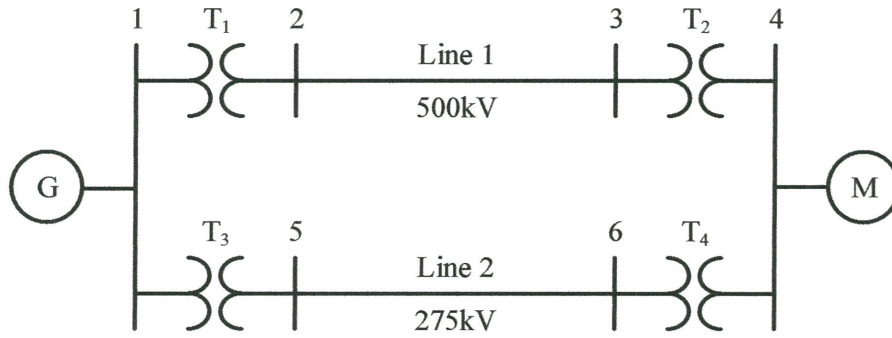

FIGURE Q1(b)
- Q1** (a) List **five (5)** advantages of using per unit system in power system analysis. (5 marks)
- (b) An one-line diagram of a three-phase power system is shown in **Figure Q1(b)**. Line 1 and 2 have reactances of 53.61Ω and 44.11Ω , respectively. The manufacturer's data for each equipment is given in **Table Q1(b)**. Assume a common base of 100MVA and 22kV on the generator side.
- (i) Determine the per unit impedances of each device in **Figure Q1(b)**. (13 marks)
- (ii) Construct the per unit impedance diagram representing the system illustrated in **Figure Q1(b)**. (2 marks)